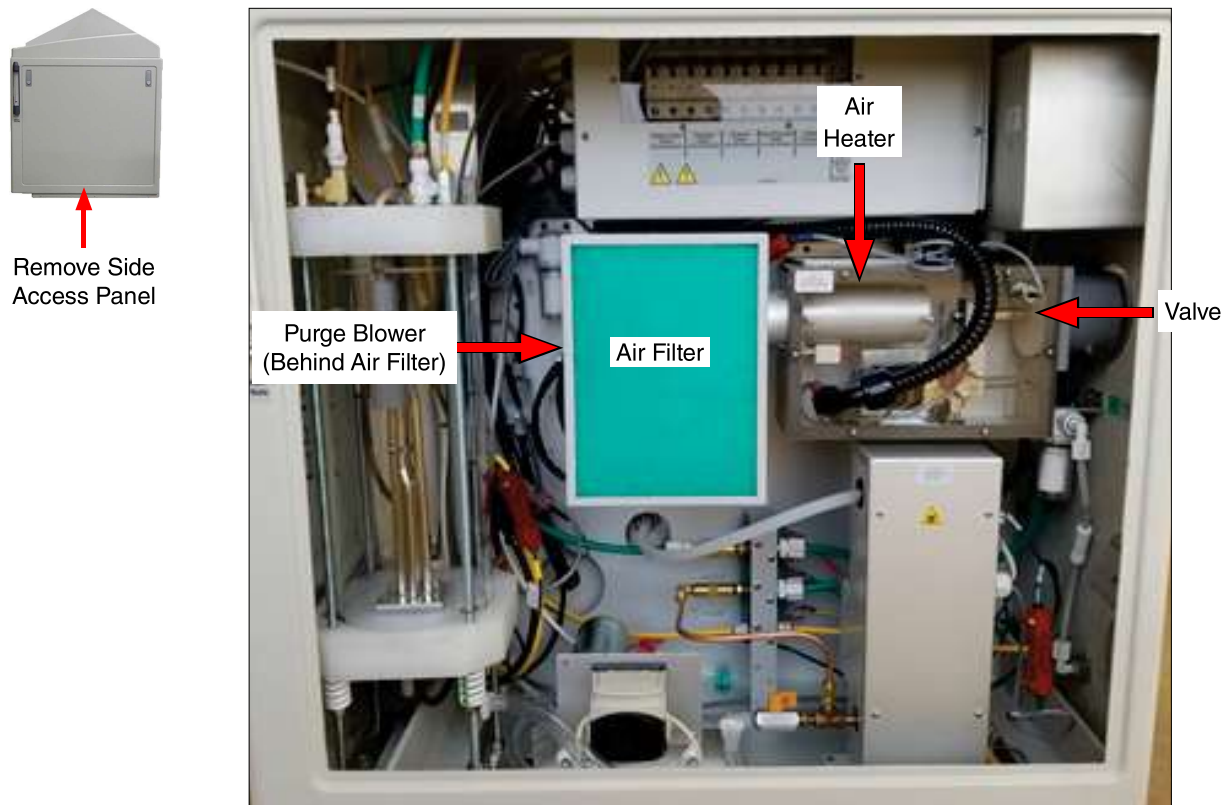

Figure 8.4: Purge blower and air heater location (right side access panel removed, CCT model shown).
- During dry steps, the purge blower blows room air into the chamber (Figure 8.4).